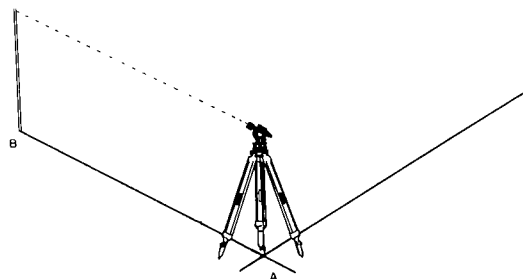

Figure 6
- 2.) Sight the telescope along line AB (see Figure 6). Tighten the horizontal clamp screw, then use the tangent screw for precise positioning.